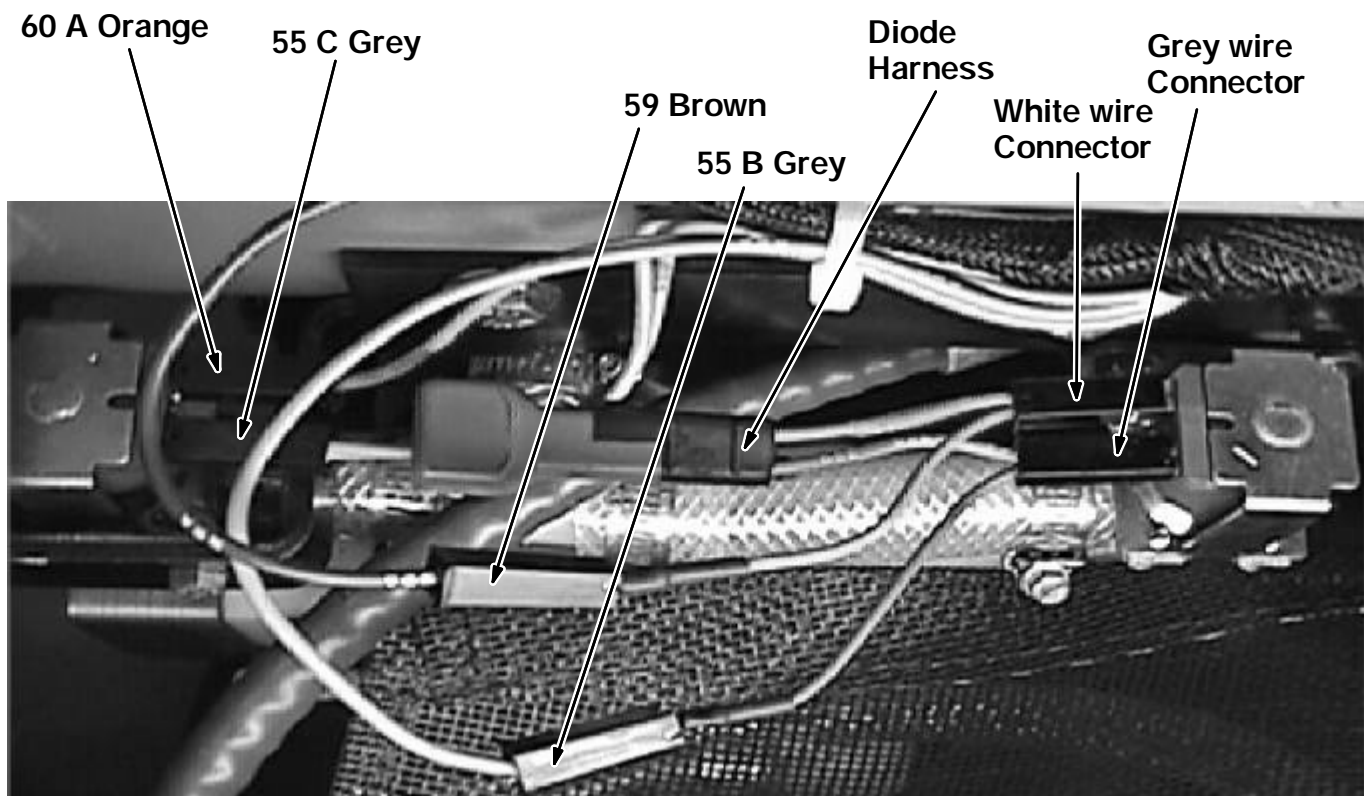

FIG. 2 - SOLUTION CONTROL 1 VALVE CONNECTION
5. Insert the Grey wire from the diode harness into the 55B Grey main harness connector. (Refer to FIG. 2)
6. Insert the White wire from the diode harness into the 59 Brown main harness connector. (Refer to FIG. 2)